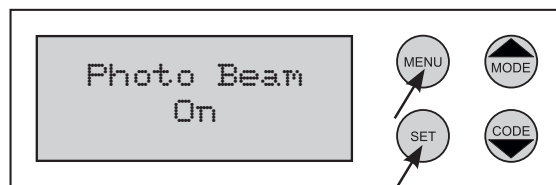

Fig. 38
- 3 Press **MENU** to choose On (Fig. 38).